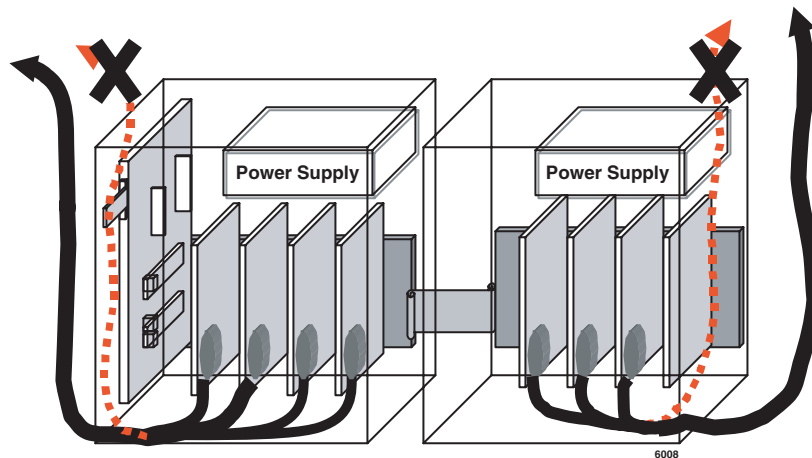

Figure 3-22 Avoid Improper Cable Routing
- **Do Not Run Cables Out the Top** – Cabling from either cabinet should be routed out the lower sides, not from the top of the cabinet(s) (see Figure 3-22).